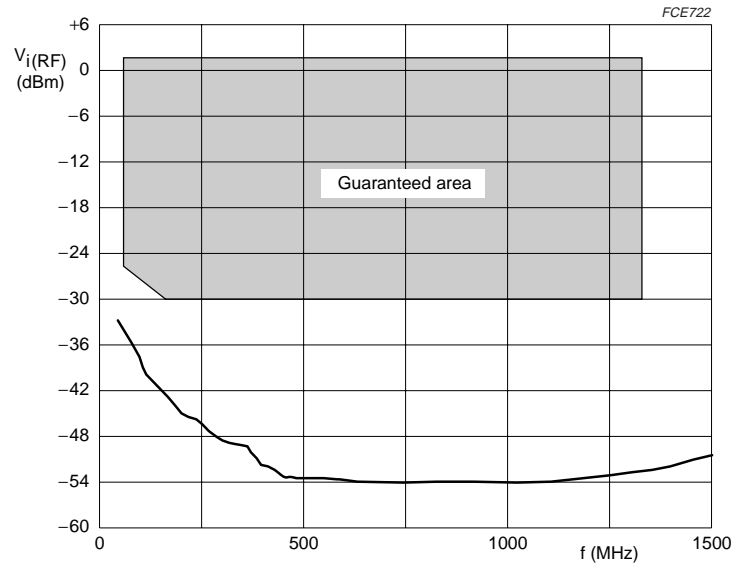

Fig.3 Typical sensitivity curve.
- Asymmetrical drive on pin RFA or RFB; see Fig.3.